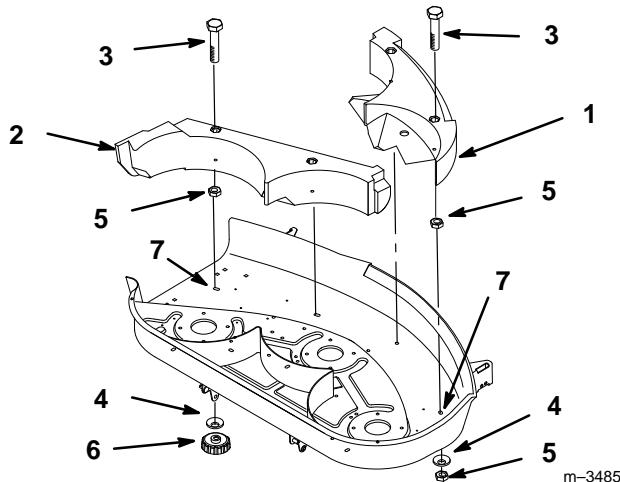

Figure 4
2. Remove the knobs and washers from the right side baffle and the nuts and washers from the left side baffle (Fig. 4). Lift the baffles from the deck.
3. Install (2) 3/8-16 x 3/4" (19 mm) carriage bolts (from the underside of the mower), (2) 1/2" (13 mm) washers, and (2) 3/8" locknuts in the (2) open slotted holes of the mower shown in Figure 4.